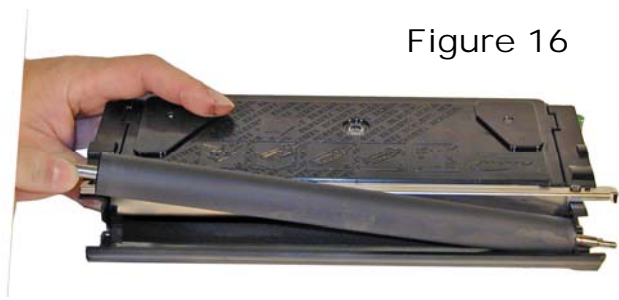

Figure 16
12) Lift the developer roller out of the cartridge. See **Figure 16**